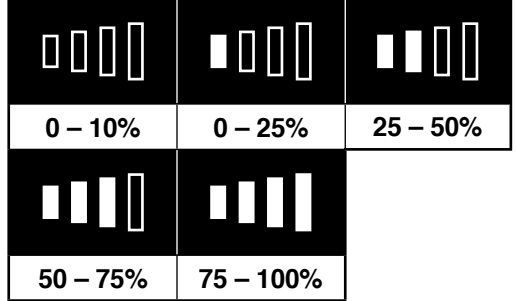

FIG. 8
6.6 BATTERY PACK CHARGE STATUS – FIG.8